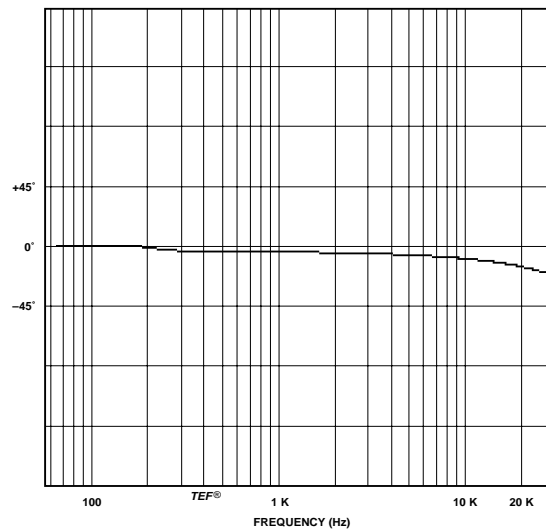

Figure 2.2 Typical Phase Response
**Phase Response:**  $\pm$ 10 degrees from 10 Hz to 20 kHz at 1 watt (see Figure 2.2).